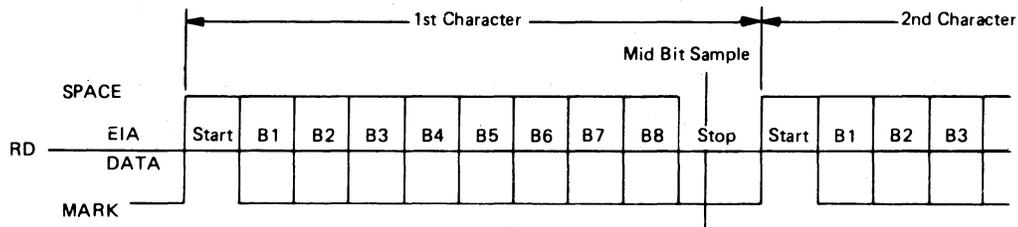

Fig. 47
3.41 The interface to the printer is SSI or EIA from an external controller data set or computer. The printer logic circuit card sends timing and control information to the controller circuits. The data, timing, and control information are formatted in a SSI word (Table G) or EIA (Fig. 47); some typical examples are shown in Table G. Refer to Chart A, for a brief description of the operational sequence.